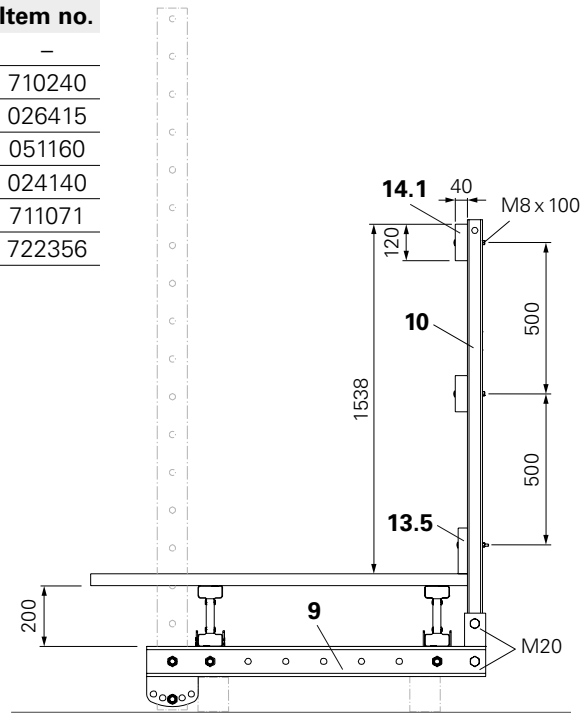

Fig. A1.20
- Loosen the 2 Bolts and Nuts M20 on the holder of the Platform Beam (9) and remove.
- Fix Guardrail Post (10) to the Platform Beam (9) using the 2x Bolts and Nuts M20. (Fig. A1.20)
(Fig. A1.20)
(Fig. A1.20 + A1.21)